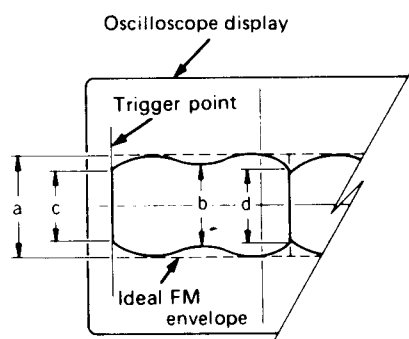

Fig. 1-6-1 FM envelope
1. Push the TRACKING +/- buttons to obtain the maximum FM envelope output corresponding to (a) level in Fig. 1-6-1. Observe the FM envelope, read the maximum level (a) and the minimum levels (b), (c) and (d).